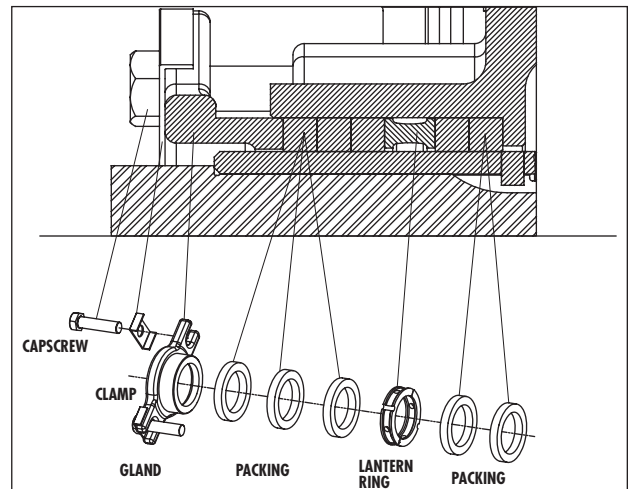

Figure 10. Packing.
- a. Remove capscrews (65), gland lamps (22) and gland halves (23).
- c. Thoroughly clean the shaft sleeve (25) and packing cover (26) seal cavity. Thoroughly inspect the bore of the Pump Packing Cover (26) and the Shaft Sleeve (25) for wear or signs that replacement is needed.
- d. Place one ring of packing (28) into the packing cover (26). On successive rings of packing stagger the packing joints to prevent excessive leakage through the packing box. If a lantern ring (29) is used, place a second ring of packing (28) into the cover before installing lantern ring. *Refer to Fig. 10.*
1. Replace the shaft sleeve (25) or packing cover (26) if there is evidence of surface damage like pitting, corrosion, nicks or scratches.
2. Replace wear ring(s) (7 & 16) in casing (6) and cover (26). Rings should not be hammered into place. Use a press or clamp the parts in a bench vice using wooden blocks to protect the rings.
3. Place one ring of packing (28) into the packing cover (26). On successive rings of packing stagger the packing joints to prevent excessive leakage through the packing box. If a lantern ring (29) is used, place a second ring of packing (28) into the cover before installing lantern ring. *Refer to Fig. 10.*